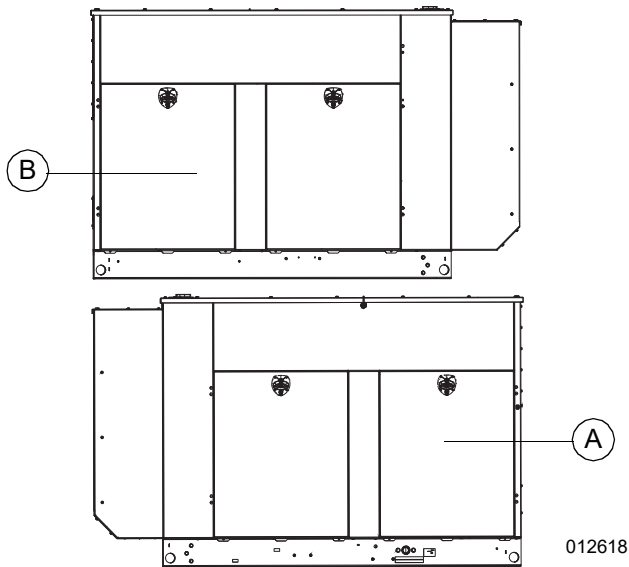

Figure 3-1. Enclosure
See **Figure 3-1**. The right and left sides are identified by standing at the rear and looking towards the front of the unit. The main circuit breaker and control panel can be accessed through the left side of the unit (A). The battery can be accessed through the right side of the unit (B).